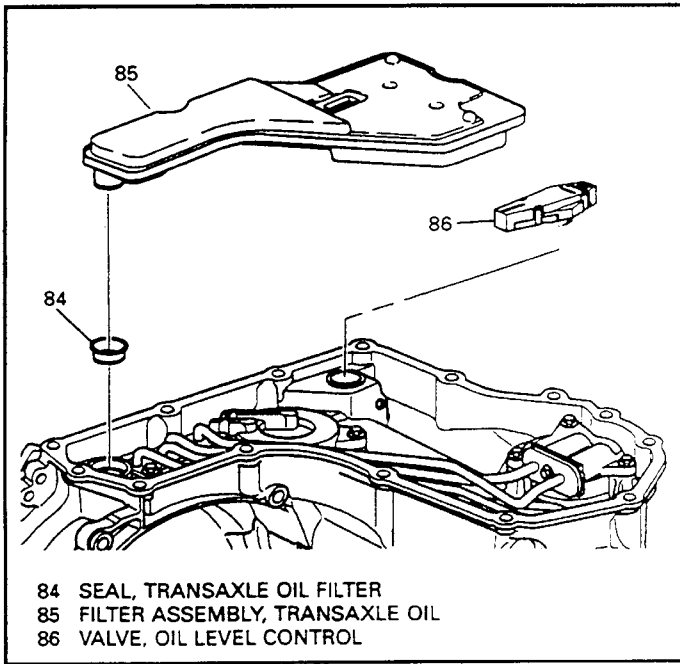

Figure 49
20. Remove the transaxle filter assembly as shown in Figure 49.
21. Remove and discard the filter neck seal from the transaxle case as shown in Figure 49.
23. Remove the oil level control valve (86) from the case as shown in Figure 49.